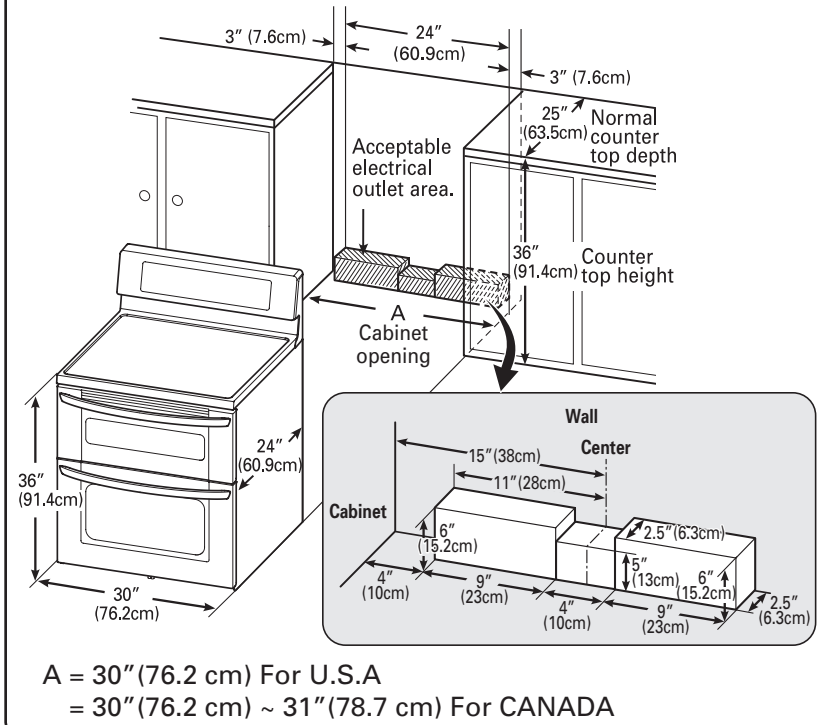

FIGURE 1
**CLEARANCES AND DIMENSIONS (Figure 1)**
To install range refer to the following Figure 1.